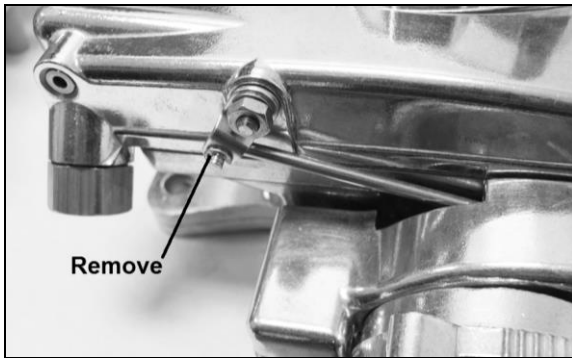

Figure 22
4. Disconnect the choke linkage by carefully removing the E-ring retainer from the choke rod (Fig. 22).